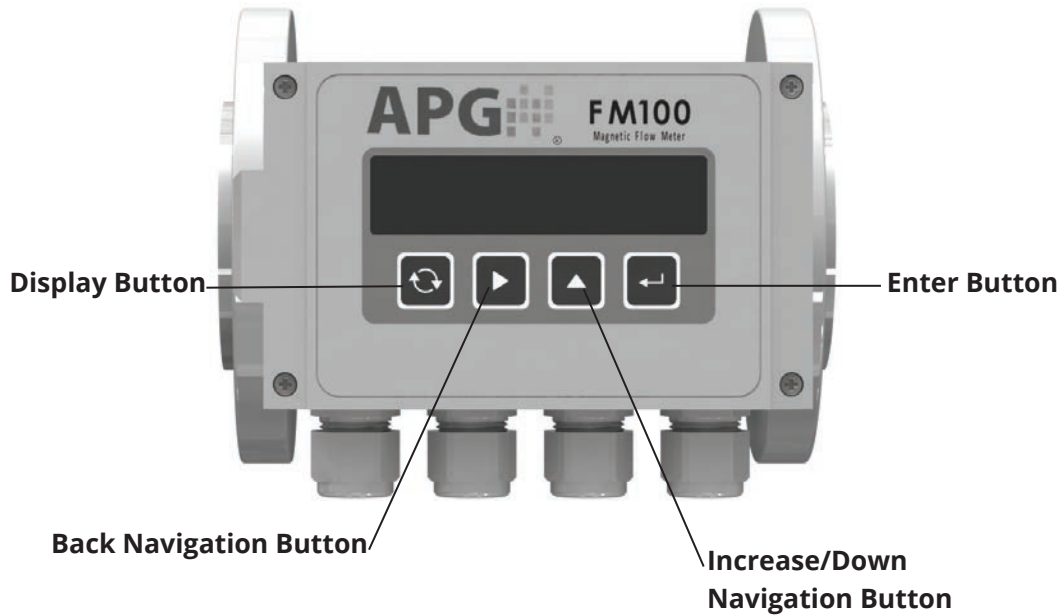
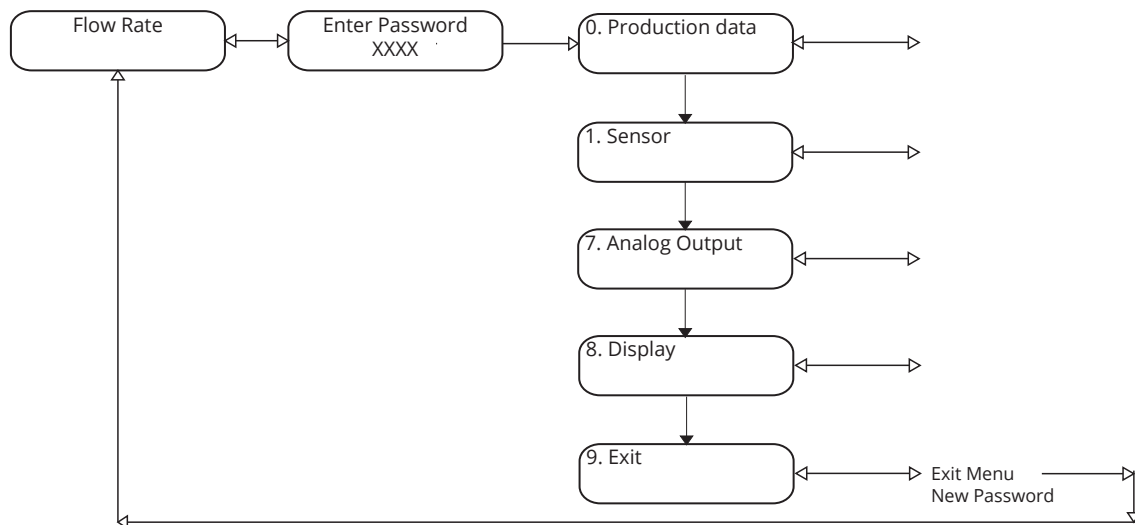

Figure 3.1
Figure 3.3
The default password for the FM100 Setup Menus is 0000. Correct password entry is required to access the Setup Menus (See Figure 3.3).
1. Use the Increase/Down Button (See Figure 3.1) to navigate through the Setup Menus to 9. Exit (See Figure 3.3).
Temp. time displays the time elapsed, in hours and minutes, since being set/reset by the user. *Temp. time* is reset by holding the Increase/Down Navigation Button and the Enter Button (See Figure 3.1) at the same time. This will reset *Temp. time* and all three *Temp. volume* parameters.